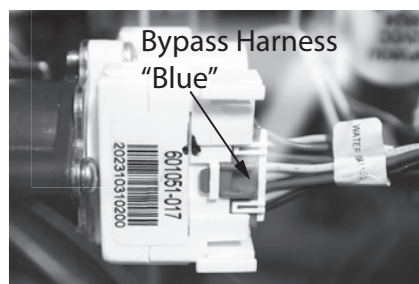

Figure 54 - Bypass valve harness location
- 20** Locate the blue wiring harness labeled "WATER VALVE" at the bypass module and disconnect it. See Figure 54.